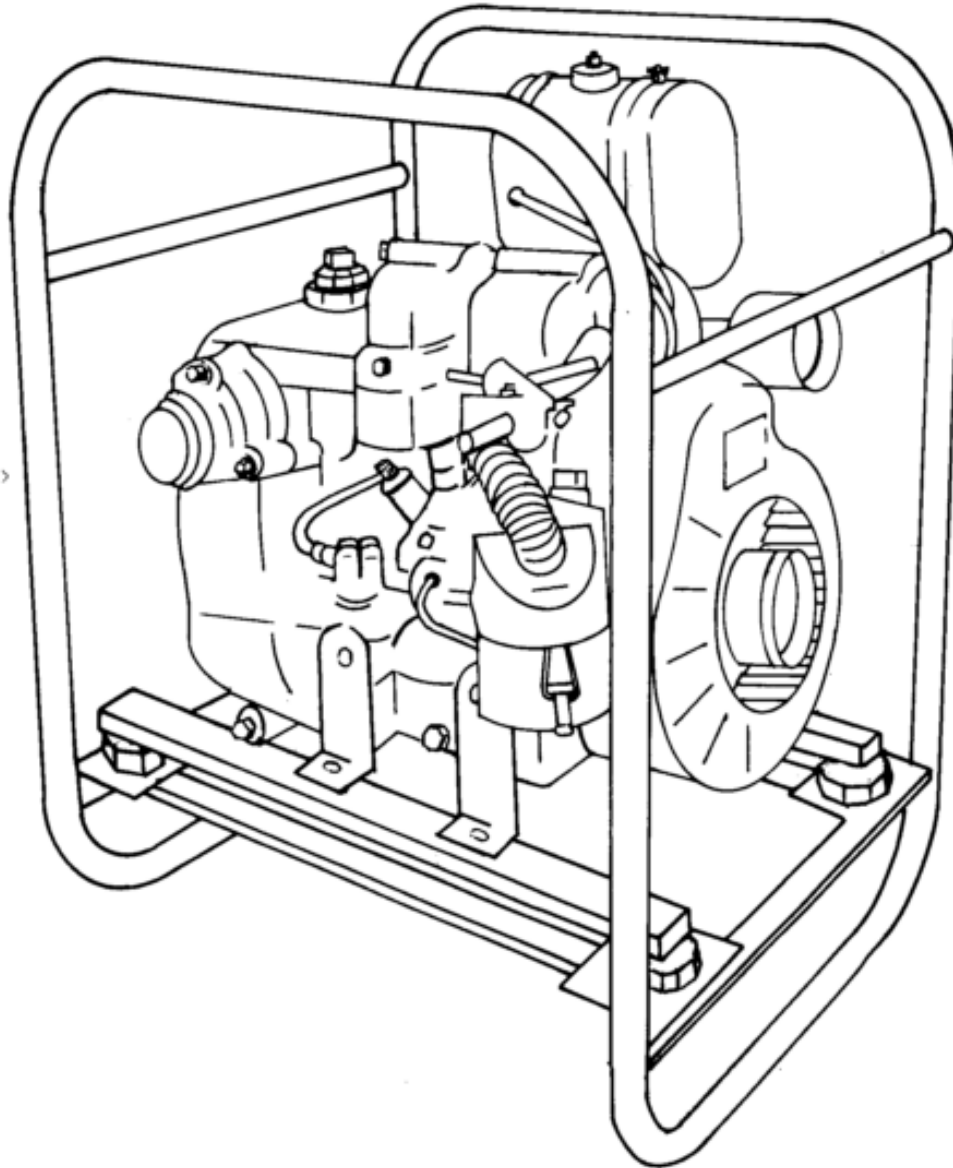

Figure 4-4. Self-priming pump
d. *Self-Priming Pump.* This pump has a priming chamber that makes repriming unnecessary when the pump is stopped for any reason other than an intentional draining. The pump is mounted on a frame with and driven by a two-cylinder, three-horsepower military standard engine (Figure 4-4). The unit is close-coupled. The impeller is secured to an adapter shaft that is fastened and keyed to the engine stub shaft. A self-adjusting mechanical seal prevents water from leaking between the pump and the engine. The pump is designed for optimum performance with a suction lift of 10 feet. You can operate the pump at greater suction lifts, but the capacity and efficiency of the unit are reduced proportionately.